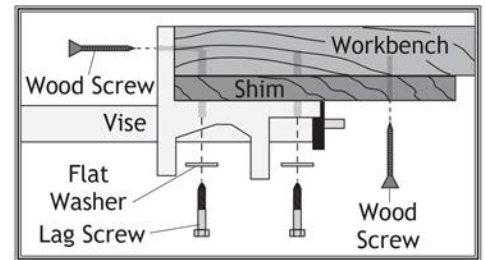

Figure 2 - Mounting Vise to Workbench with Shim
2. If the workbench is less than 2-1/4" thick, use a shim, as shown in figure 2, to adjust the workbench to 3-1/2" thick.